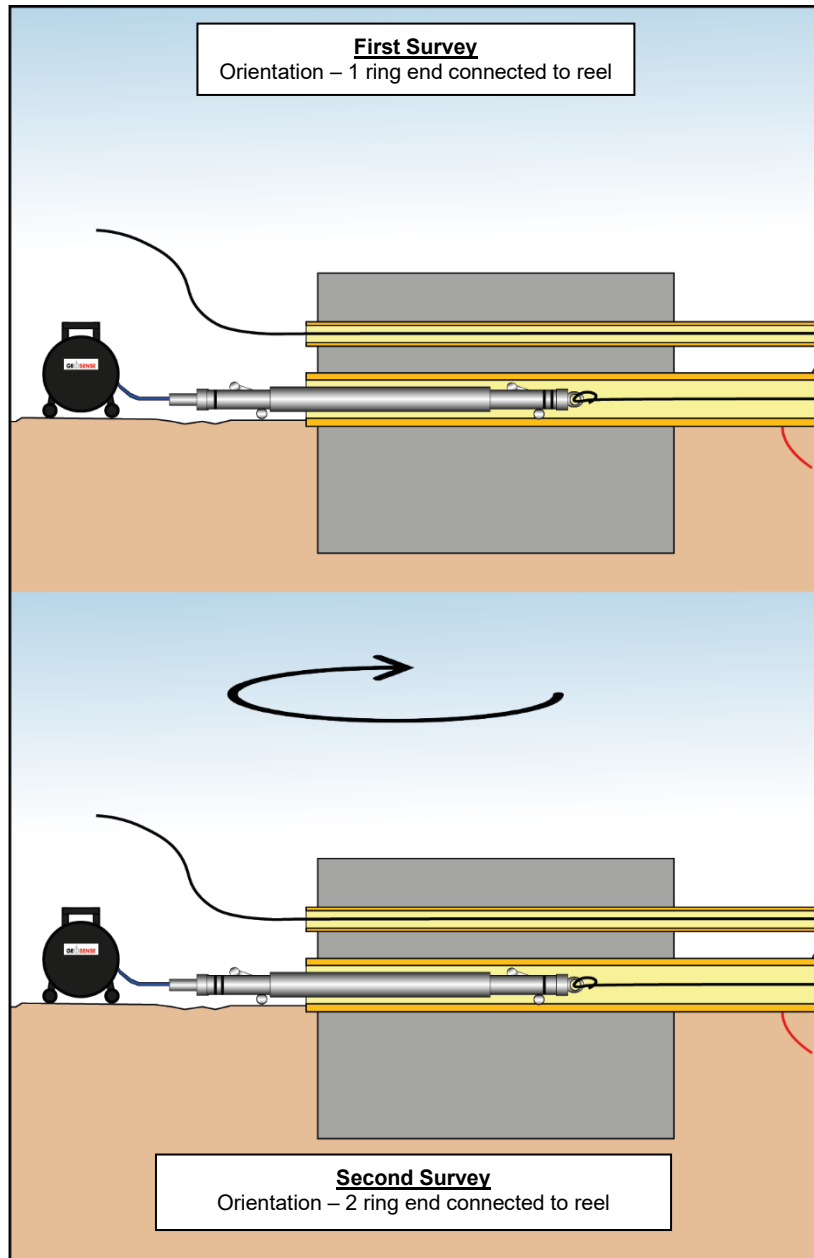

Figure 25: Probe rotated around Z-axis 180 degrees between surveys.
- 4) Once the probe reaches the top/access end of the installation, follow the on-screen instructions in the app and rotate the probe 180 degrees as per Figure 25: Probe rotated around Z-axis 180 degrees between surveys.